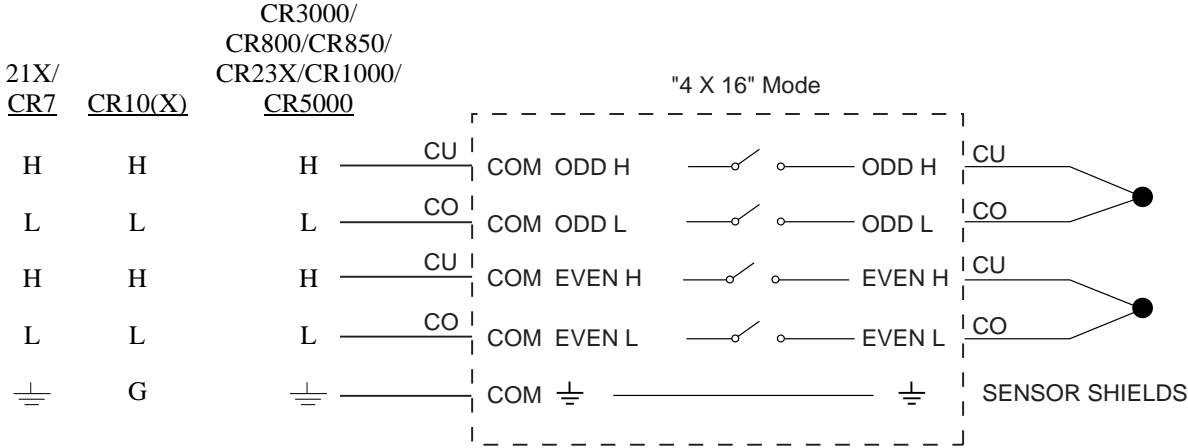

FIGURE 17. Differential Thermocouple Measurement with Reference Junction at the Datalogger.
**Reference Junction** - As shown in Figure 17 and 18, two reference junction configurations are possible: 1) reference located at the datalogger or 2) reference at the AM16/32A.
When the reference junction is located at the datalogger, the signal wires between the data-logger and the AM16/32A must be of the same wire type as the thermocouple (Figure 17). The "polarity" of the thermocouple wires must be maintained on each side of the multiplexer (e.g. if constantan wire is input to an L terminal, then a constantan wire should run between the multiplexer's COM ODD L terminal and the datalogger measurement terminal). Figures 17 and 18 depict type T thermocouple applications, but other thermocouple types (e.g. E, J, and K) may also be measured and linearized by the dataloggers.